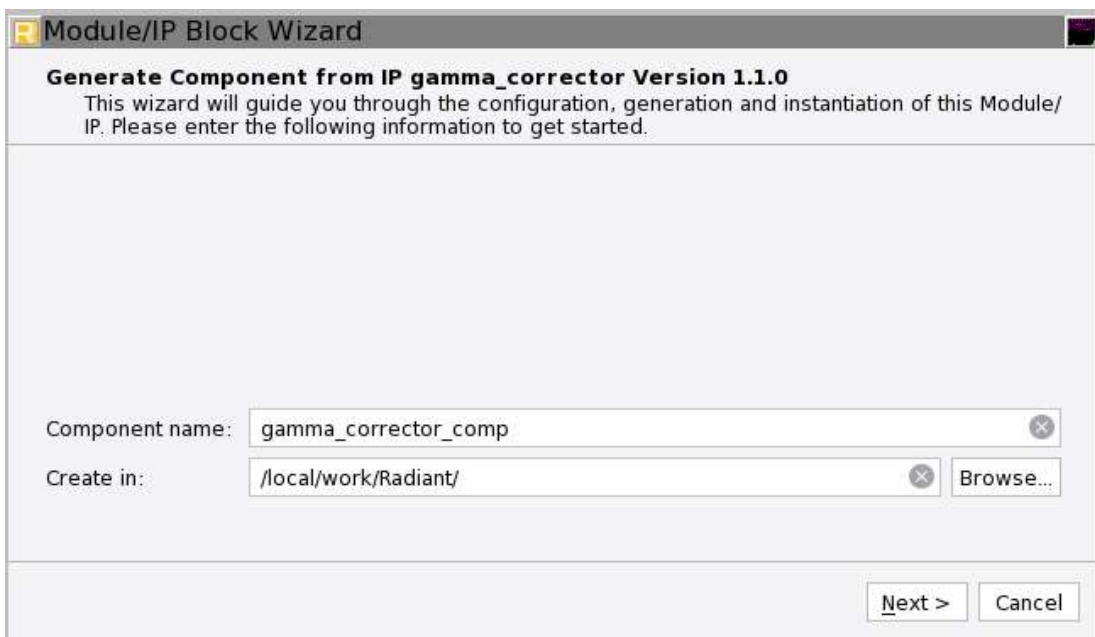

Figure 3.1. Module/IP Block Wizard
2. In the **IP Catalog** tab, double-click on **Gamma Corrector** under **IP, DSP** category. The **Module/IP Block Wizard** opens as shown in Figure 3.1. Enter values in the **Component name** and the **Create in** fields and click **Next**.
- Click the **Finish** button. All the generated files are placed under the directory paths in the **Create in** and the **Component name** fields shown in Figure 3.1.